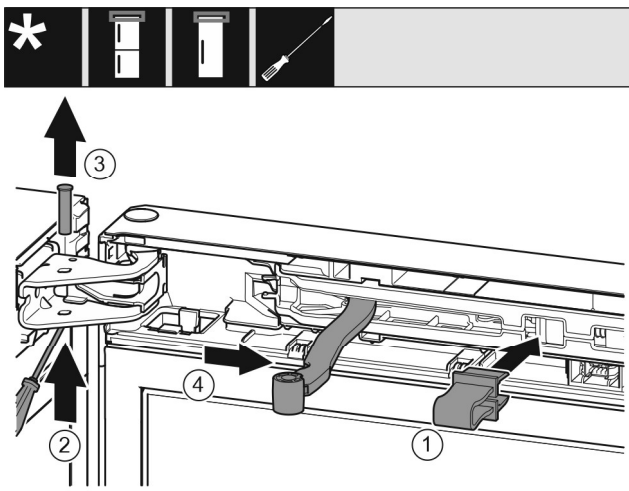

Fig. 10
- ▶ Snap the locking device Fig. 10 (1) into the opening.
- ▶ Pull out the pin Fig. 10 (2).
- ▶ Pull out the pin Fig. 10 (3) upward.
- ▶ Turn the joint Fig. 10 (4) towards the door.